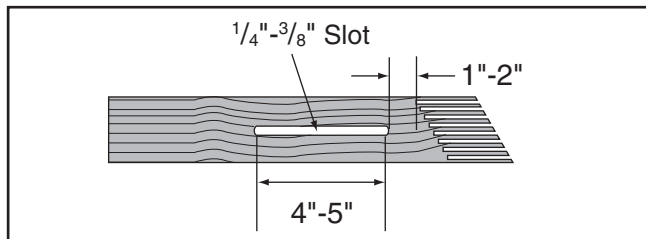

Figure 55. Slot routed in featherboard.
4. Rout a $\frac{1}{4}$ "– $\frac{3}{8}$ " wide slot 4"–5" long in workpiece and 1"–2" from short end of featherboard (see **Figure 55**).